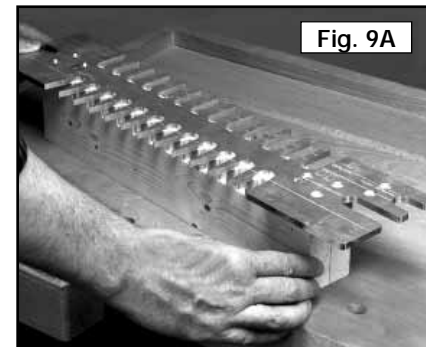

Fig. 9A
- Step 1** - Orient the template so that the "PINS" side is facing you (Fig. 9A).